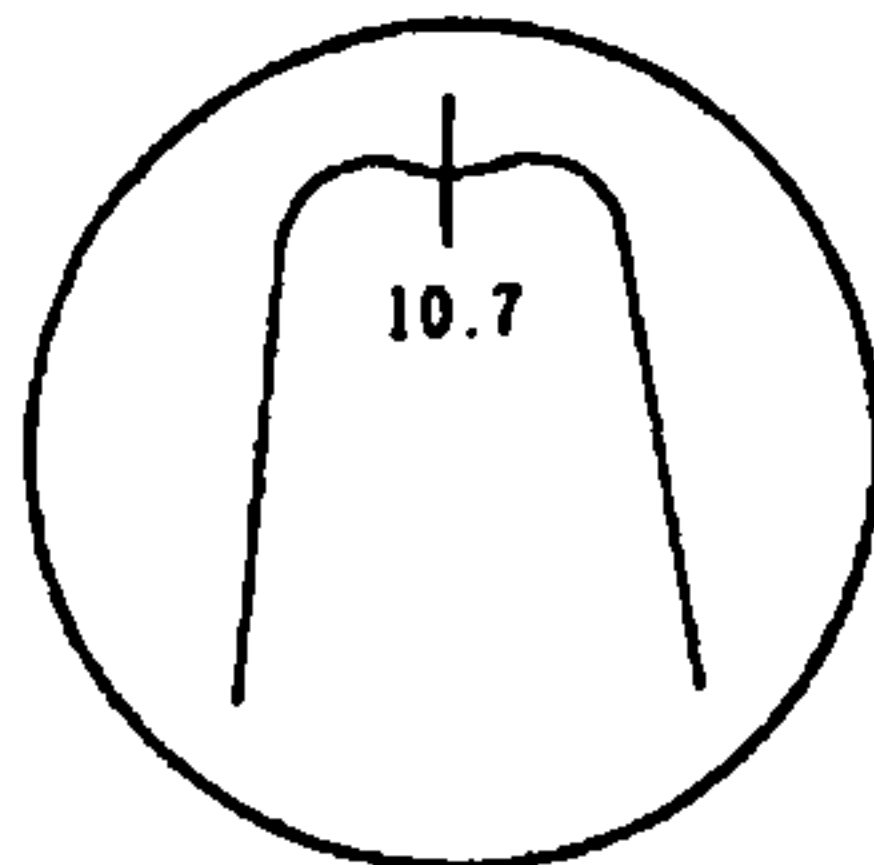

Figure 15
(1) RF Amplifier
(2) First IF Amplifier
- b) Set the frequency of the sweep generator to 10.7 MHz and apply its output. Adjust T101 until the scope pattern illustrated in Fig. 15 is available.